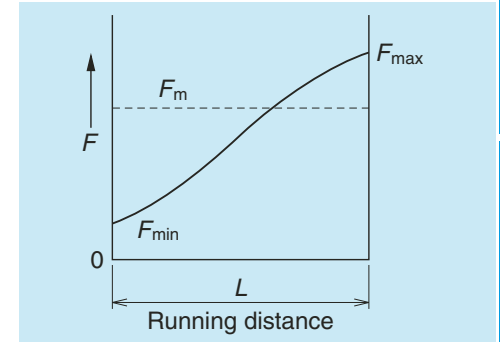

Fig. 2.4 Linear load change
(2) When load changes almost linearly (Fig. 2.4)